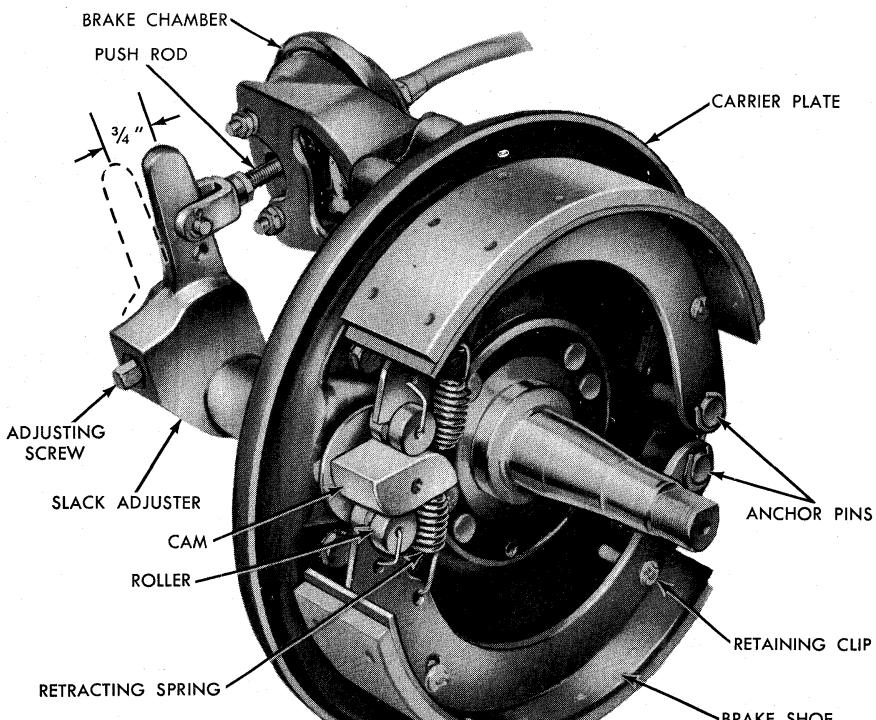

FIG. 12—Typical Front Brake Assembly
Apply the brakes and measure the travel of the brake chamber push rod (Fig. 12). If equipped with a Maxibrake unit, the minimum air pressure should be 90 psi while measuring the travel. The travel should be kept to the minimum possible without causing the brakes to drag. The maximum travel should not exceed the dimensions listed in Table 1. Adjustment of the yoke on the brake chamber push rod should not be changed. When new, the yoke is adjusted so that the slack adjuster-brake chamber push rod angle is slightly greater than 90° when the brakes are properly adjusted and the brakes are applied. Brake lining wear will not change this angle as long as the slack adjusters are kept adjusted to compensate for lining wear.
A push rod travel, that reaches or exceeds the maximum listed in the "Brake Chamber Push Rod Adjustment" table in Part 2-8, indicates need of adjustment. Turn the adjusting screw clockwise until the push rod travels $\frac{3}{4}$ inch in going from released to fully applied position (Fig. 12). When making the adjustment, turn the screw in quarter turns.
1. Release all air from the system, then disconnect the air line at the brake chamber (Figs. 12 and 13).
1. Remove the clevis pin attaching the slack adjuster to the brake chamber push rod (Figs. 12 and 13).
2. Remove the brake shoe retracting spring from the brake shoes and the C-washer from each anchor pin (Fig. 12).